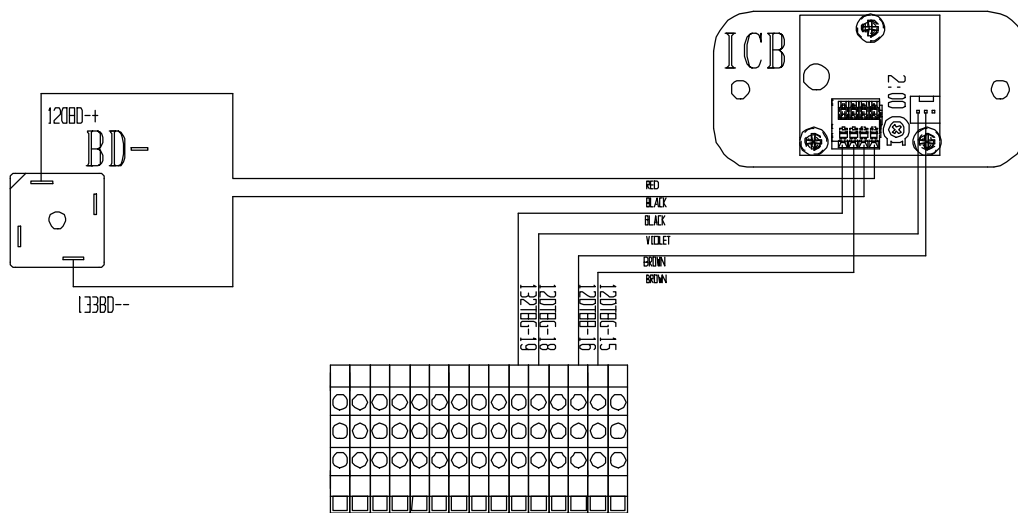
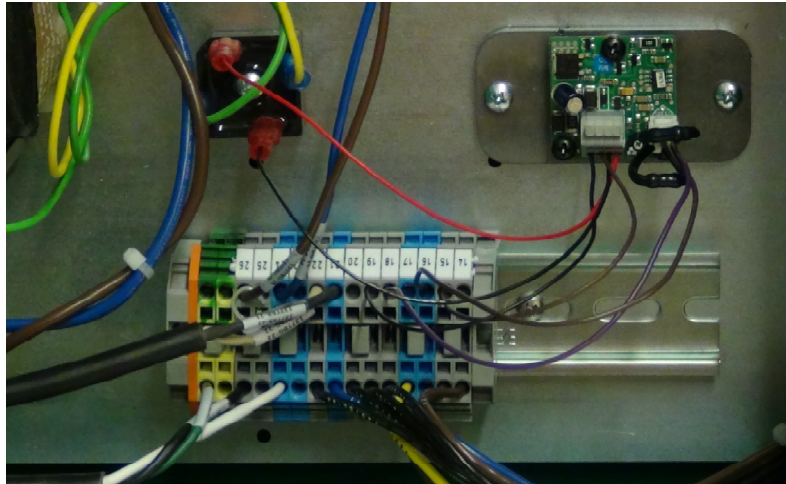

Fig 4.
Fig 5.
STEP 6. Connect the 6 wires from the ICB to the terminal block and the BRIDGE DIODE. The label on the end of the wire indicates the connection point of each wire. See figure 4 and figure 5.